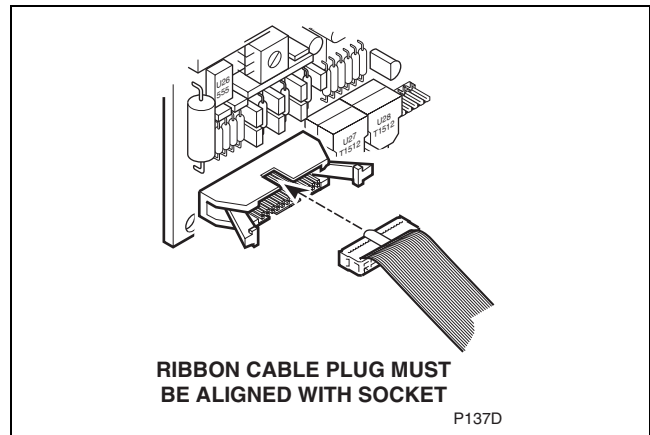

Figure 7
- j. Board installation is the reverse of removal. Carefully align the plugs with the receptacles and push them gently into place. Refer to *Figure 7*.
i. Board installation is the reverse of removal. Carefully align the plugs with the receptacles and push them gently into place. Refer to *Figure 7*.